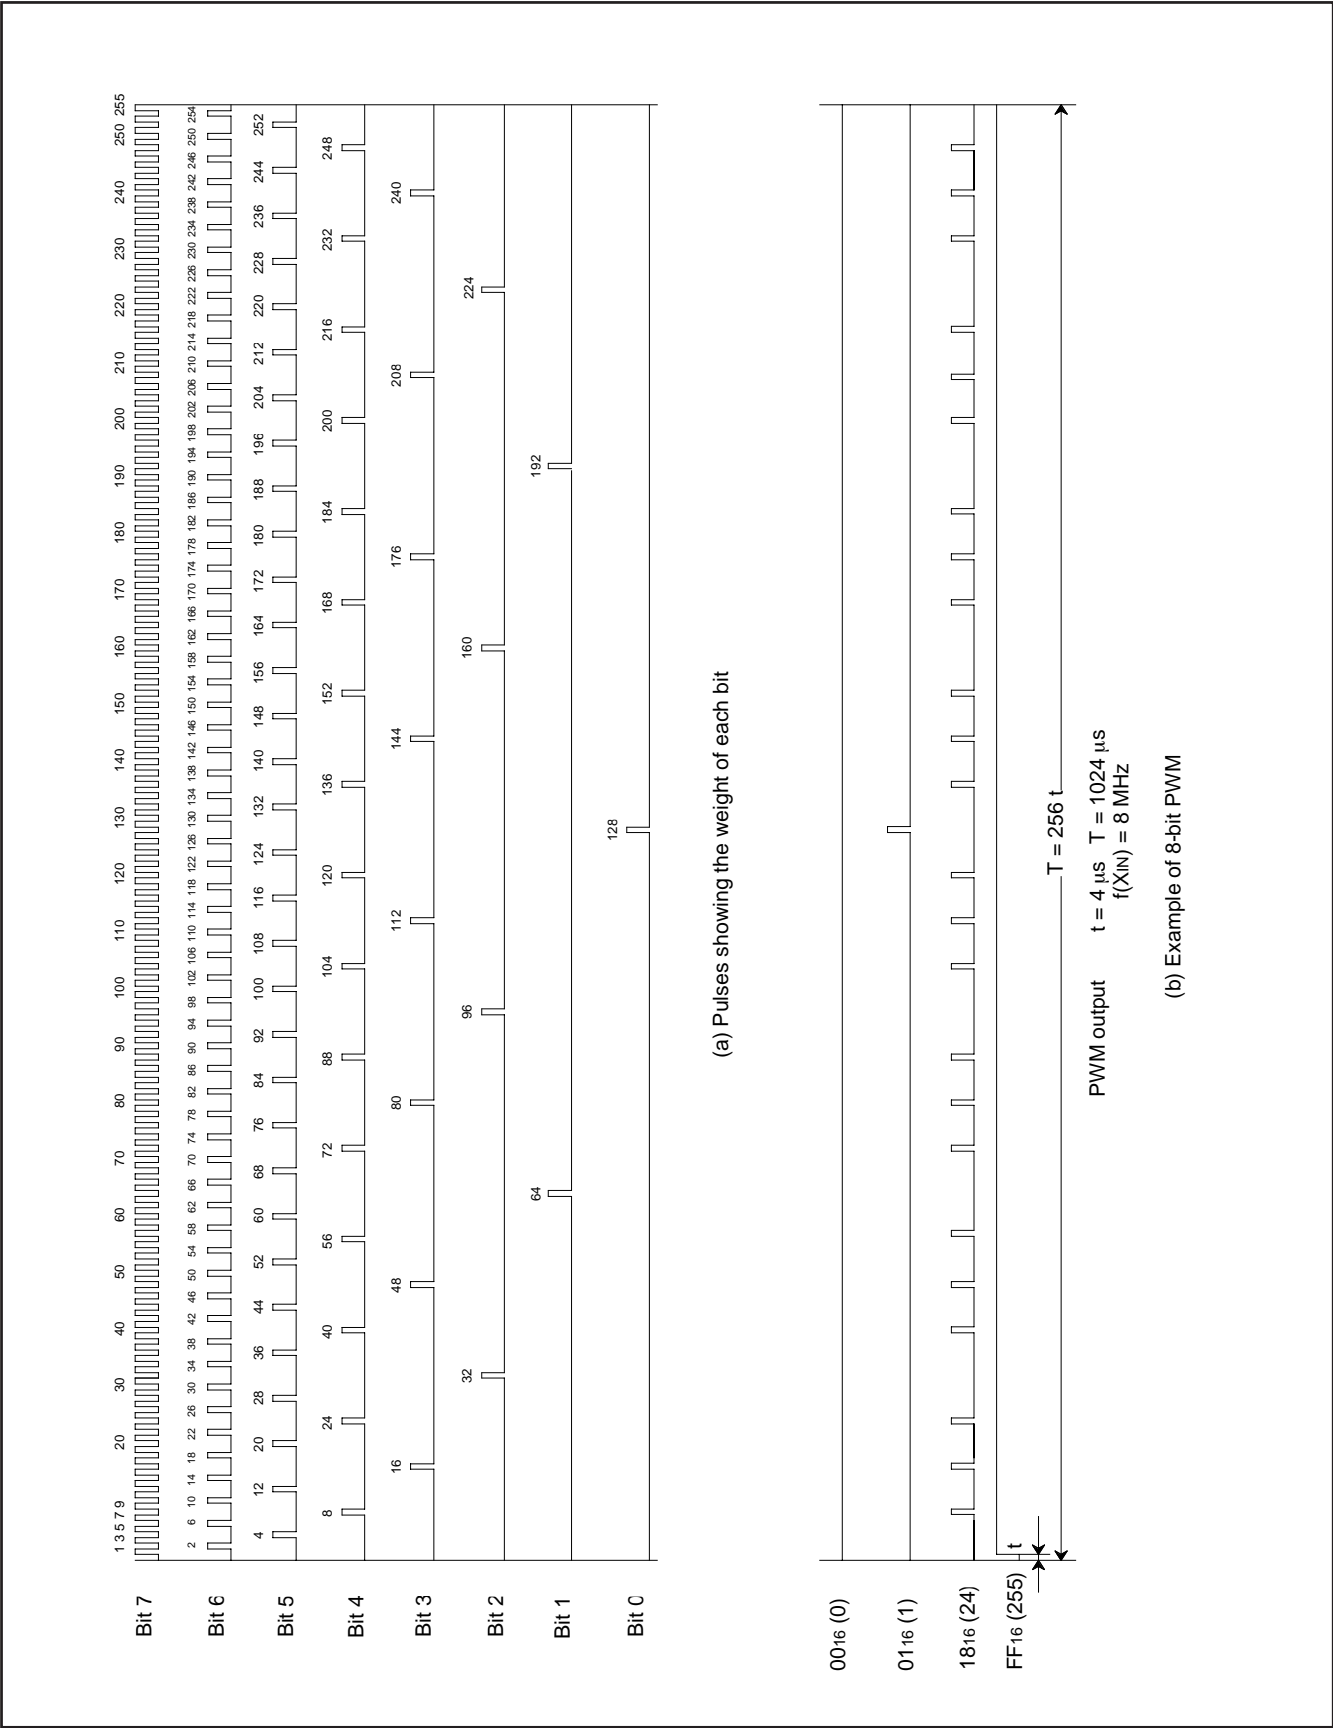

Fig. 8.7.2 PWM Timing
Figure 8.7.2 shows the 8-bit PWM timing. One cycle (T) is composed of $256\ (2^8)$ segments. 8 kinds of pulses, relative to the weight of each bit (bits 0 to 7), are output inside the circuit during 1 cycle. Refer to Figure 8.7.2 (a). The 8-bit PWM outputs a waveform which is the logical sum (OR) of pulses corresponding to the contents of bits 0 to 7 of the 8-bit PWM register. Several examples are shown in Figure 8.7.2 (b). 256 kinds of output (HIGH area: 0/256 to 255/256) are selected by changing the contents of the PWM register. An entirely HIGH selection cannot be output, i.e. 256/256.